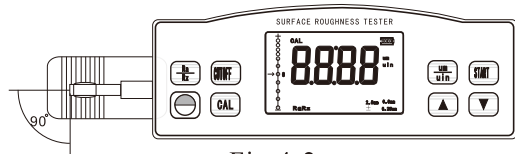
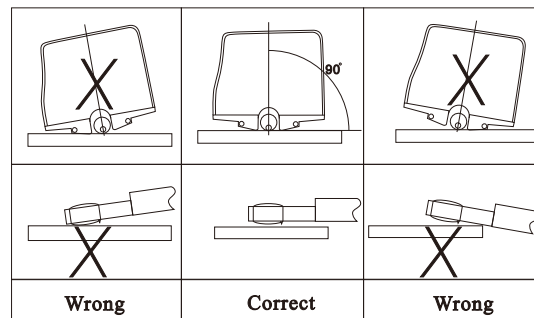

Fig.4-2
Fig.4-1
- G. Refer to Figure 4-1 and Figure 4-2 to place the instrument correctly, stably and reliably on the surface to be measured.
- H. Refer to Figure 4-2,the sliding trail of the sensor must be vertical to the direction of process line of the measured surface.